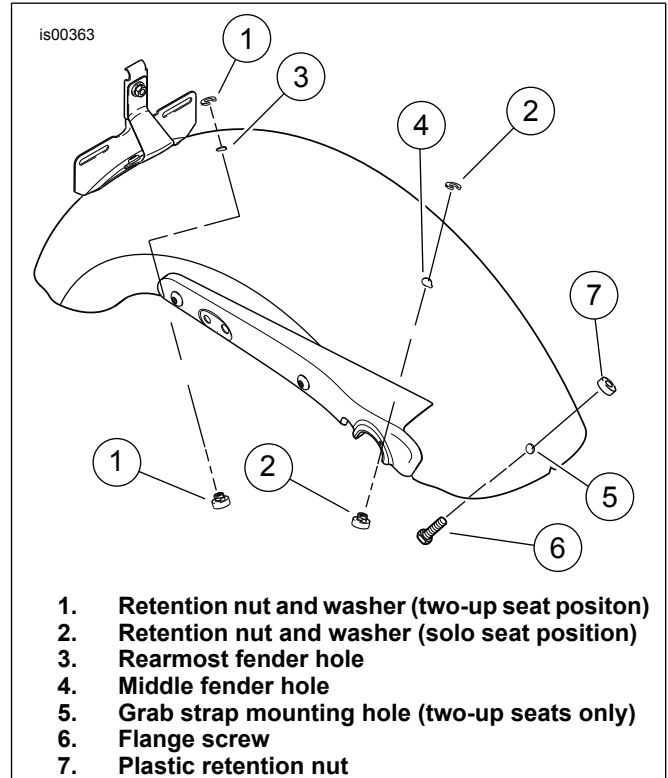

Figure 1. Retention Nut Location
5. See Figure 1. Remove the plastic cap from rearmost fender hole (3).
6. Remove the seat retention nut and washer (1) from the solo seat mounting hole.